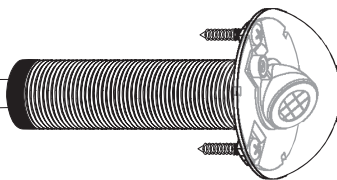

Figure 2
3. Run the CS100's IR cable. Label the cable for future reference (Figure 2). The CS100 is supplied with 10' of pre-stripped IR cable. The IR cable may be shortened or lengthened as needed. If you want to make the CS100's cable shorter, use a pair of wire cutters to cut the cable to the desired length. The IR cable may be lengthened by splicing it to a recommended IR cable (See Installation Considerations—Type of Cable). You may splice the CS100 cable to another cable by soldering or crimping the connections.
2. Double check the cable connections on the CS100 and on the main system unit. Look for open, shorted or reversed wires (Figure 2).